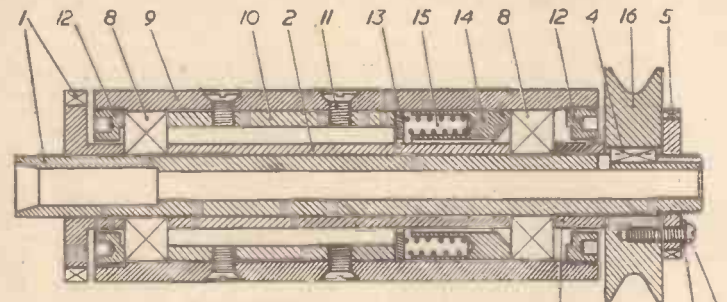

Fig. 1.—Section of the completed tool-post grinder. 3
The contacts of the impulse relay are connected in series with the impulse magnet (6) Fig. 1 and a supply of about 60 volts at $\frac{1}{2}$ amp., preferably D.C.
Assuming that the pendulum is at rest and that the light (11) Fig. 1 is on. In this position the shutter obscures light from the photo-cell plate.
As shown in Fig. 1, the design comprises a spindle assembly 1 mounted on two journal-thrust bearings 8 and built into an outer casing 9. A fixed sleeve 10 locates the wheel end bearing and a thrust ring 14 in conjunction with springs 15 exerts a predetermined pressure on the drive end bearing so as to compensate for wear and eliminate chatter. The drive is by 3/4in. diameter belt to the pulley 16, and the spindle will accommodate up to a 3in. diameter wheel 1/2in. wide for external grinding, the wheel being fitted direct to the spindle nose and held in place by the draw-bolt and washer shown in Fig. 2. For internal grinding, the wheel being held by the spring collet and drawbolt shown in Fig. 3. The mounting of the spindle on the lathe has been omitted, but the best method is to use a split cradle bolted to the T-slot of the cross-slide, the